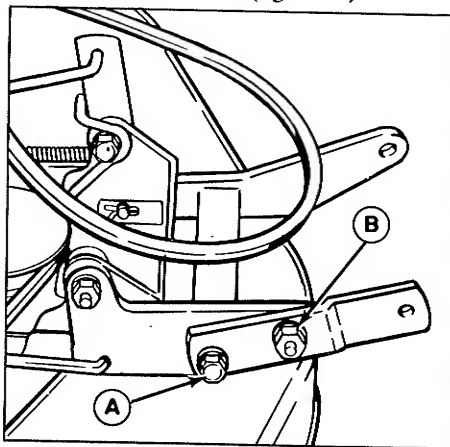

Figure 34. Mower Hitch (shown removed from tractor)
4. Loosen the capscrew and flange nut in right mower hitch (figure 34).
6. Retighten the capscrew (A, figure 34) and flange nut (B). Torque capscrew (A) to 50 ft. lbs. Torque nut (B) to 65 ft. lbs.